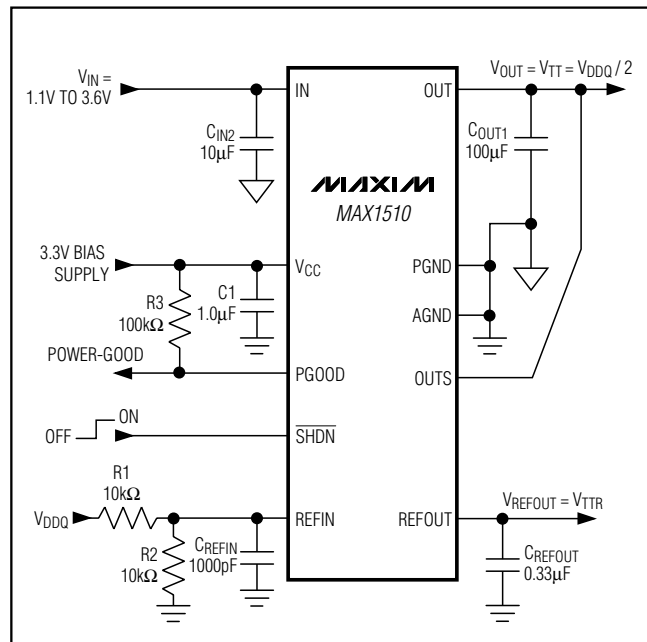

Figure 1. Standard Application Circuit
(V_{IN} = 1.8V, V_{CC} = 3.3V, V_{REFIN} = V_{OUTS} = 1.25V, $\overline{\text{SHDN}}$ = V_{CC}, circuit of Figure 1, T_A = -40°C to +85°C, unless otherwise noted. Typical values are at T_A = +25°C.) (Note 1)
($V_{IN} = 1.8V$, $V_{CC} = 3.3V$, $V_{REFIN} = V_{OUTS} = 1.25V$, $\overline{SHDN} = V_{CC}$, circuit of Figure 1, $T_A = -40^{\circ}C$ to $+85^{\circ}C$, unless otherwise noted. Typical values are at $T_A = +25^{\circ}C$.) (Note 1)
(Circuit of Figure 1. $T_A = +25^\circ\text{C}$, unless otherwise noted)
The MAX1510 is a low-voltage, low-dropout DDR termination linear regulator with an external bias supply input and a buffered reference output (see Figures 1 and 2). V_{CC} is powered by a 2.7V to 3.6V supply that is commonly available in laptop and desktop computers. The 3.3V bias supply drives the gate of the internal pass transistor, while a lower voltage input at the drain of the transistor (IN) is regulated to provide V_{OUT}. By using separate bias and power inputs, the MAX1510 can drive an n-channel high-side MOSFET and use a lower input voltage to provide better efficiency.
The MAX1510 regulates OUTS to the voltage set at REFIN, making the MAX1510 ideal for memory applications where the termination supply must track the supply voltage. Typically, REFIN is set by an external resistive voltage-divider connected to the memory supply (VDDQ) as shown in Figure 1.